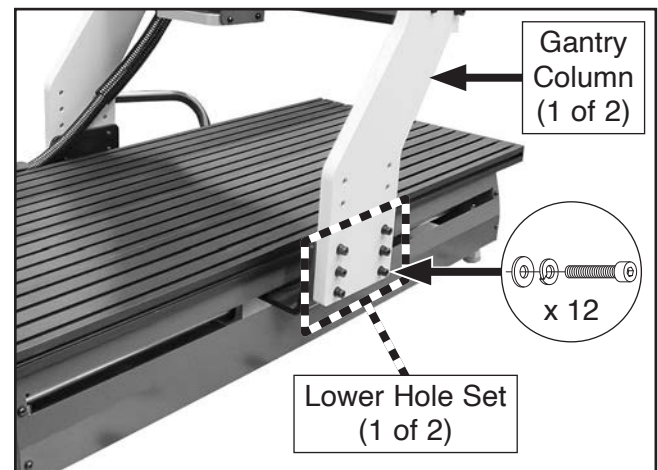

Figure 39. Gantry secured to lower hole set.
4. Raise gantry and place (2) wood blocks under gantry columns for support during the next step.
5. Raise gantry and install (12) fasteners removed in **Step 3** into lower hole set on gantry columns (see **Figure 39**). Do not fully tighten fasteners at this time.